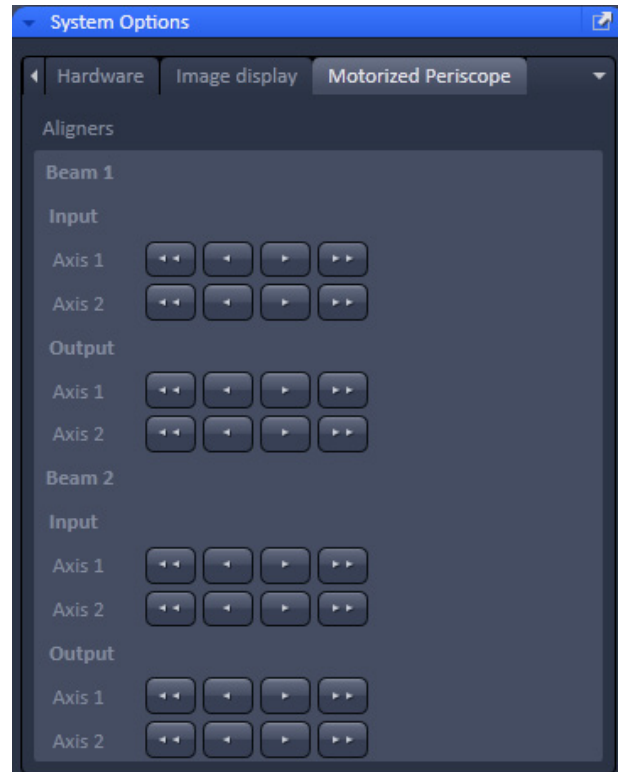

Fig. 3 Motorized Persicope panel
- Systems with OPO or two lasers coupled into one scan head are equipped with a motorized periscope. The interface for controlling the motorized mirrors within the periscope is in the **Maintain** tab/**System Options** tool. Scroll to the Motorized Periscope tab in the tool (Fig. 3). A pair of mirrors is related to each one of the lasers or to the OPO. Input addresses the mirror at the entry of the periscope. Output addresses the mirror at the exit of the periscope next to the scan head. For each mirror two axis can be controlled via the arrows in the corresponding line. Corrections should only be done in small steps and should only be necessary for controlling the overlay of the two beams if beams are to be used for the excitation of the same area simultaneously or sequentially. If the beam is lost by operating the arrows it might be necessary to get a service engineer for completely realigning the beam.